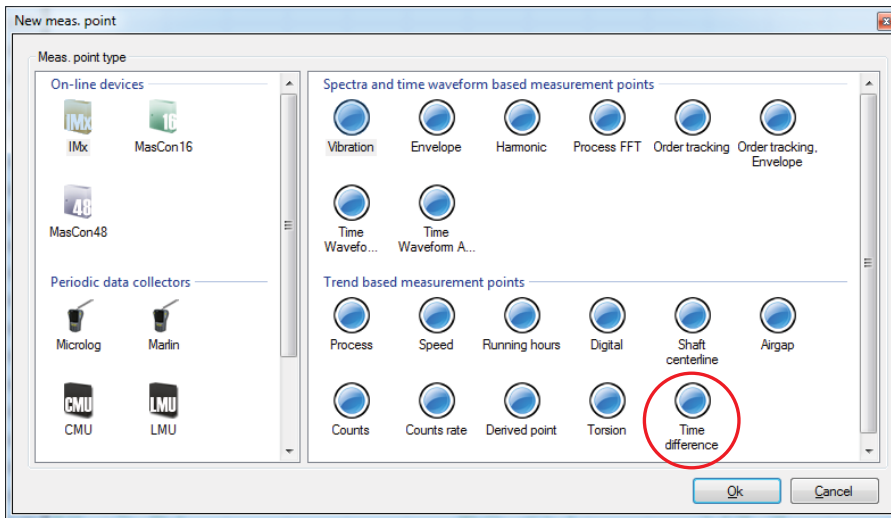

Fig. 7. Create a "Time difference" measurement point.
- 3 Create and configure the "Time difference" measurement point to calculate the time difference between the two trig pulses from the tachometers (→ figs. 7 and 8).